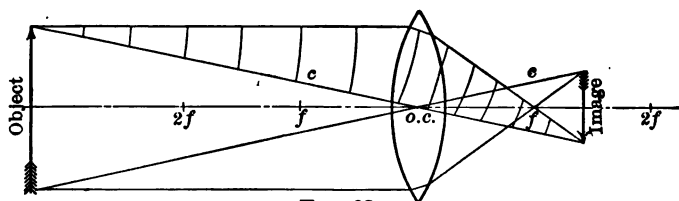

FIG. 63.
1. When the object is beyond $2f$, the image is real, inverted, smaller. This is the position used in the camera for taking all ordinary pictures. See Fig. 63.